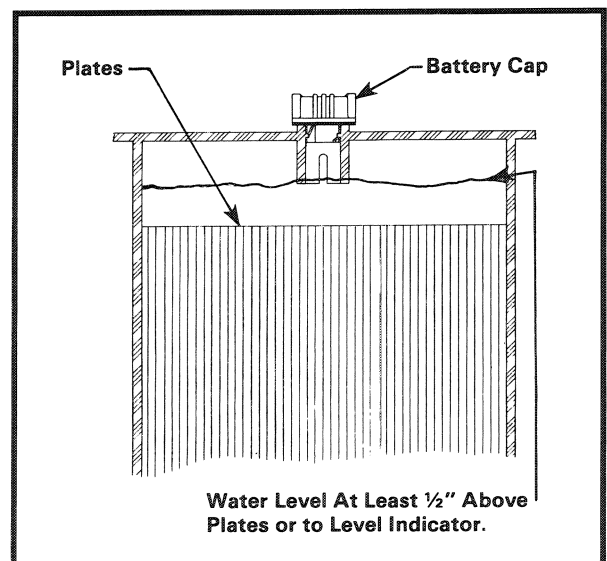

Figure 23
2. The water level in the batteries should be checked weekly (See Figure 23 for proper level). Add water only after charging unless the water level is below the top of the plates. In this case, add just enough water to cover the plates, charge and then check the level again. For best battery life, add only distilled water to the batteries.